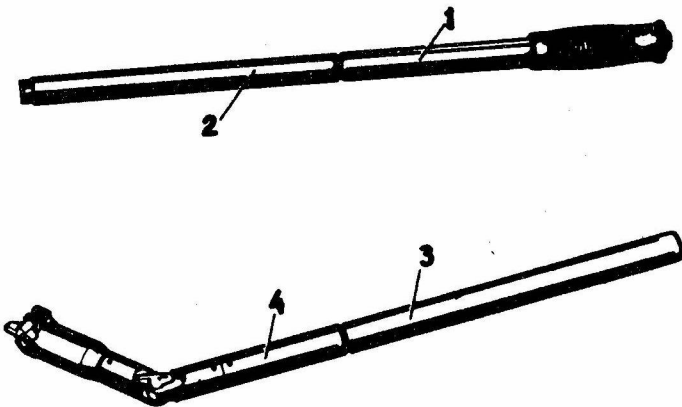

Fig. 10 — SCANNING ROD
The scanning rod (fig.10) is made of four cylindrical sections. The two centre sections, (2) and (3), are terminated with external and internal threads.